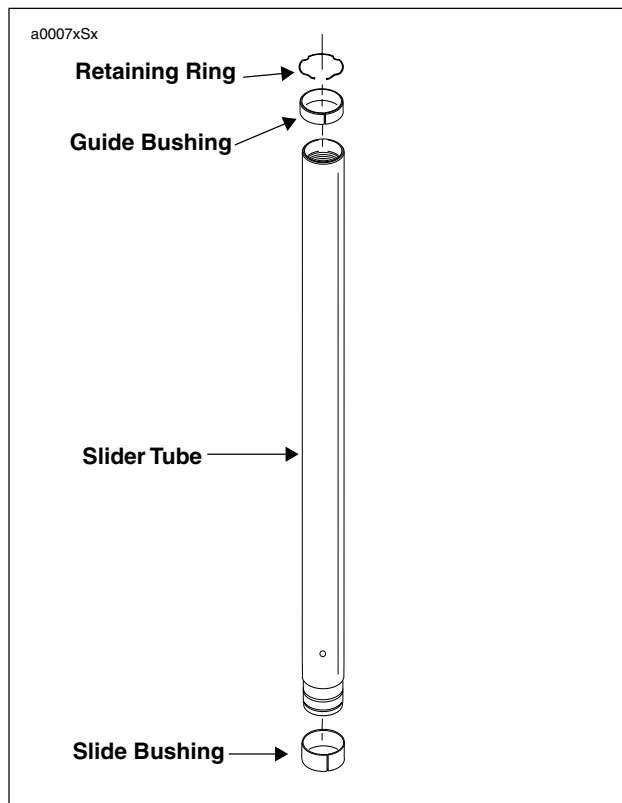

Figure 2-68. Slider tube Components
2. See Figure 2-68. Check the slider tube for score marks, scratches and excessive or abnormal wear. Replace if worn or damaged.